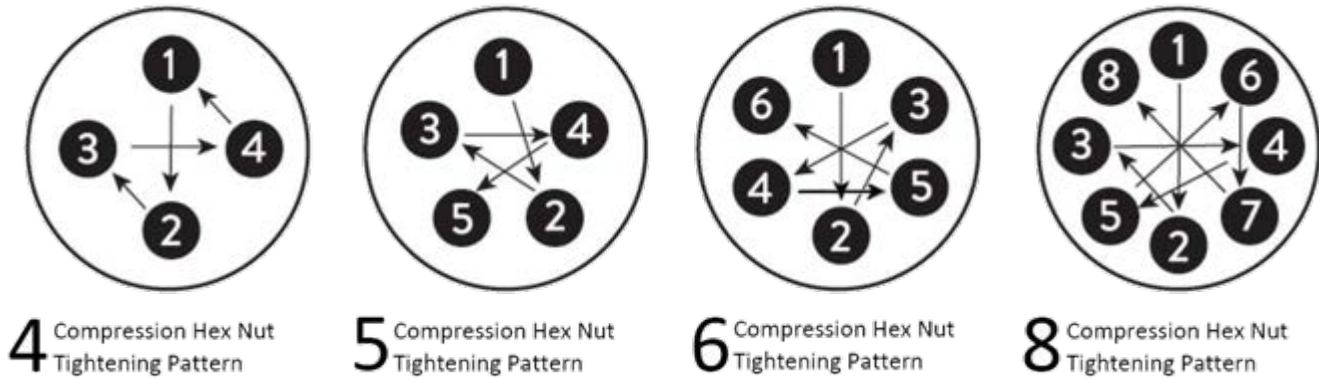

Figure 8: Compression Hex Nut Tightening Pattern Examples
- Using the star pattern illustrated in Figure 8, turn each **Compression Hex Nut (19)** a maximum of three full revolutions before proceeding to the next nut. Repeat this process until 50% of the target torque is achieved on all nuts, then increase to 100% of the target installation torque and continue torquing in the star pattern. After completing the star pattern at 100% of the target torque, use a circular pattern to verify that all nuts are correctly torqued.